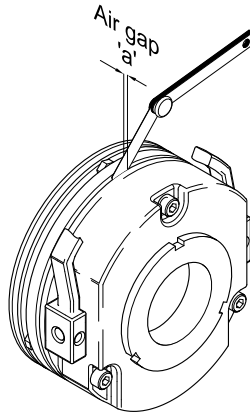

Figure 79 – Checking Traverse Brake Air Gap
The air gap 'a' (between the stator (5) and the armature plate (1)) should be checked in at least three positions around the circumference of the brake using non-magnetic feeler gauges (see Figure 79). The air gap should not exceed the maximum air gap of **0.6mm**.